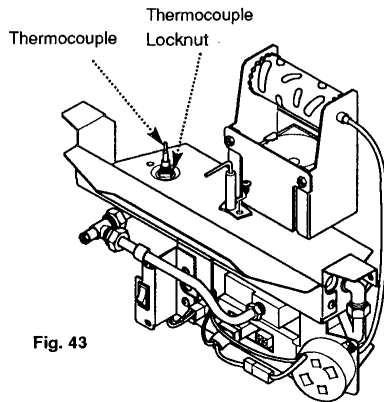

Fig. 43
10.4 Cleaning the Thermocouple (Fig. 43)